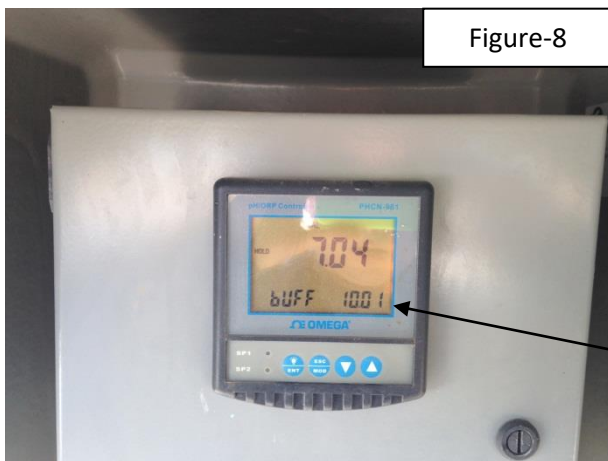

Figure-8
2.3.1.7. Use up and down arrows on PLC to select pH 10 buffer. See Figure-8 below